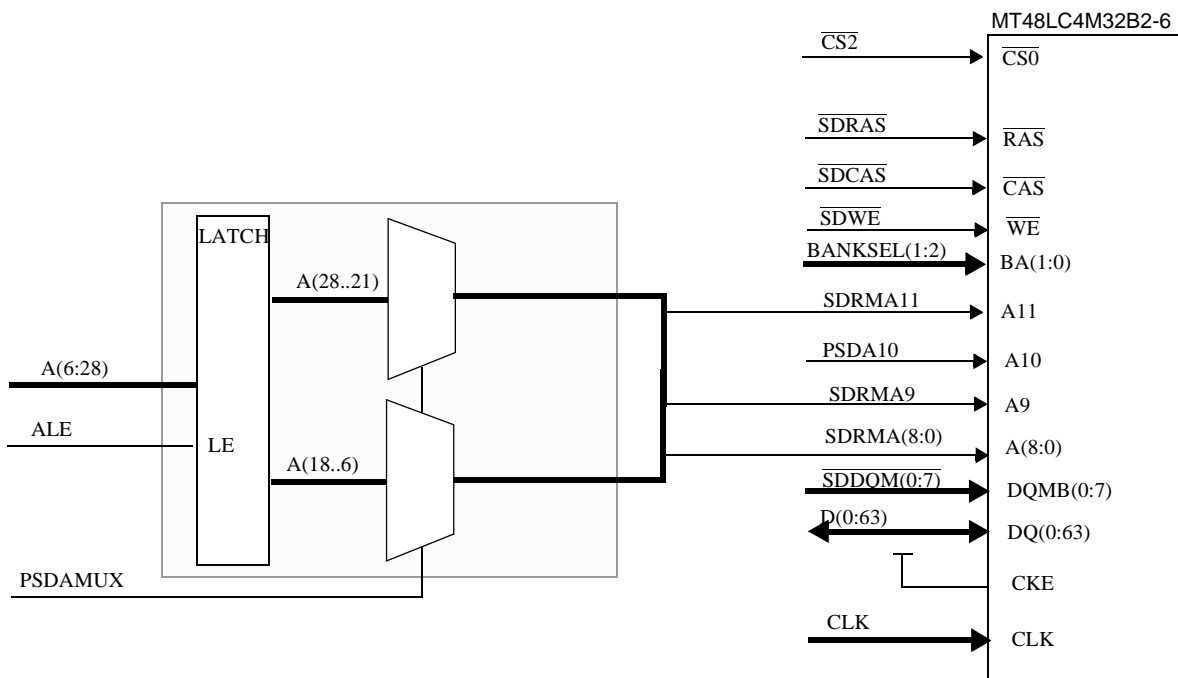

Figure 4-6. SDRAM - 60x Bus Connection Scheme with L2 Cache
The SDRAM connection scheme when L2 cache is installed is shown in Figure 4-6.
1. Optional Latches - Multiplexers are added over selected address lines. See Figure 4-6.